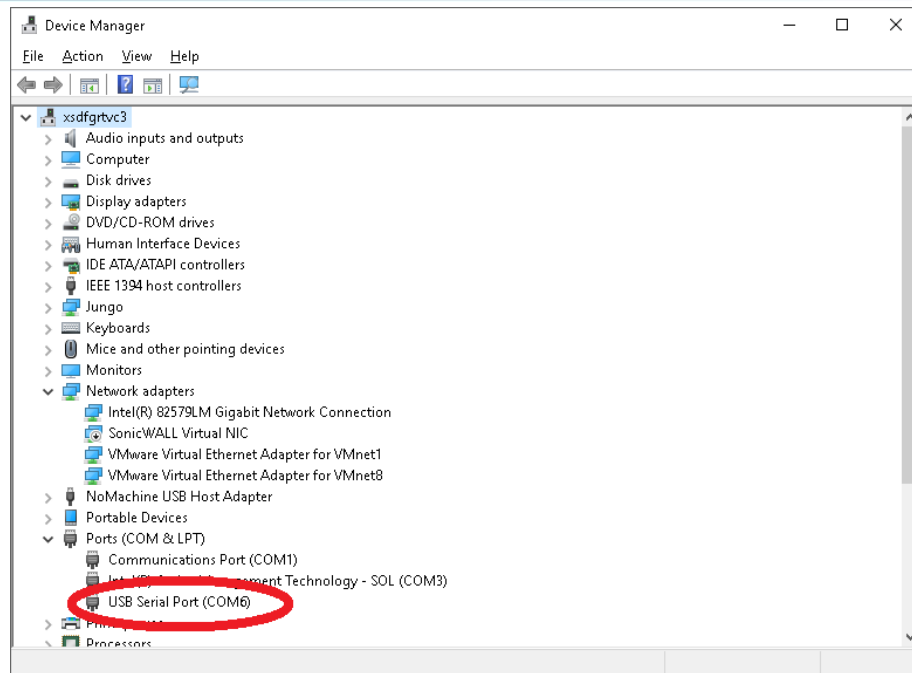
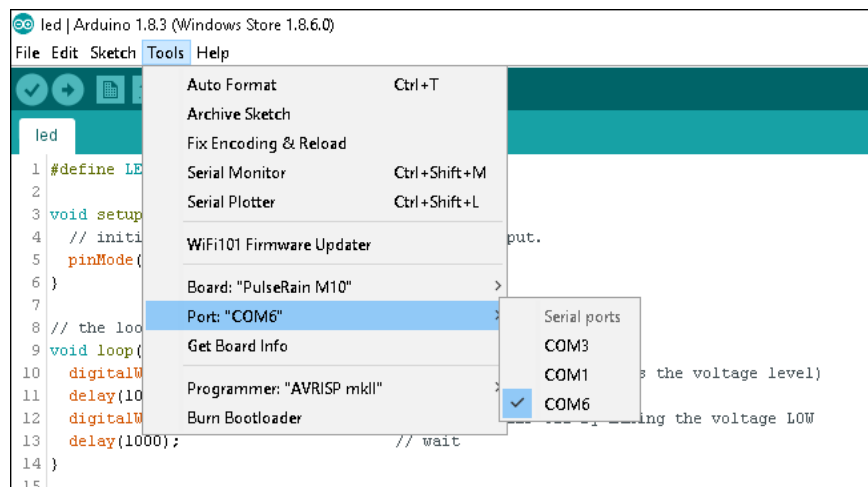

Figure 2-2 USB Serial Port in Windows Device Manager
Figure 2-8 Arduino IDE, Select COM port
- 4) If the Windows driver is successfully installed, you should be able to find a new COM port in Windows Device Manager, as shown in Figure 2-2.
To select the COM port in Arduino IDE, click the menu Tool / Port, as shown in Figure 2-8. The COM port for M10 board is usually the one that has the biggest index number, but not always. If you have trouble determining which COM port corresponds to the M10 board, you can always open the device manager to check, as illustrated in Figure 2-2.